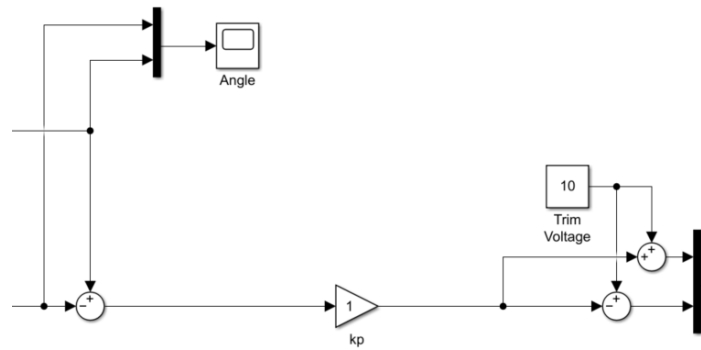

Figure 3: Proportional gain in the feedback loop
3. Add a *proportional* gain block  $k_p$  between the *error sum* blocks as shown in Figure 3.